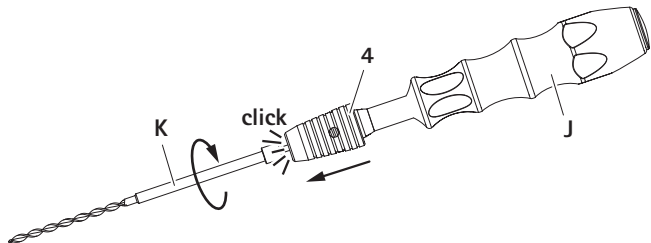

Fig. 13
- Slide the drill K into the adapter of the drill handle J or Q as far as it will go, see Fig. 13.